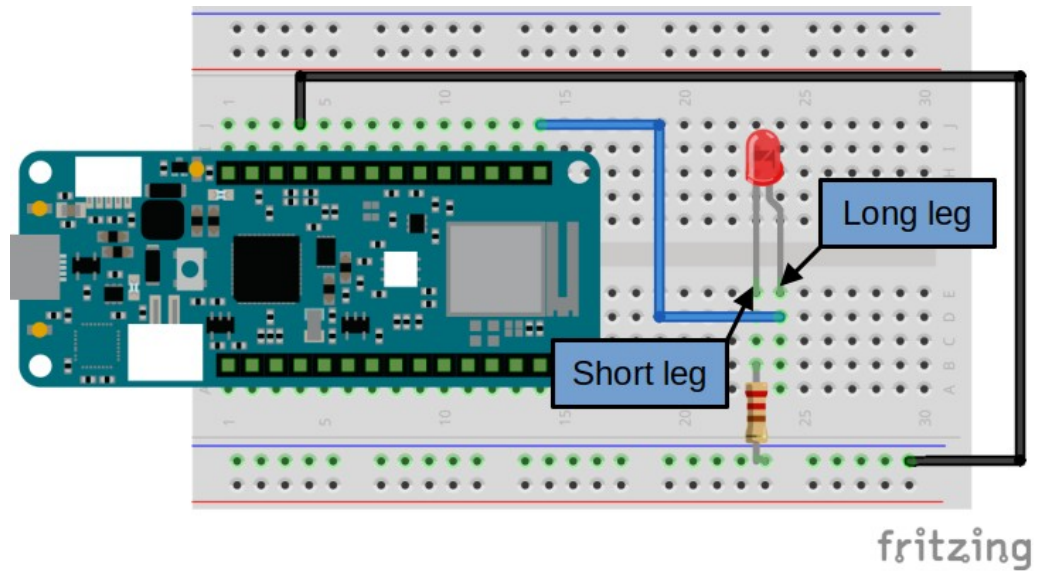

Figure 6 – Basic “blink” circuit
7. Insert the LED (as in Figure 6).
Firstly we will set up the same LED circuit as previously (see Figure 6, previously).